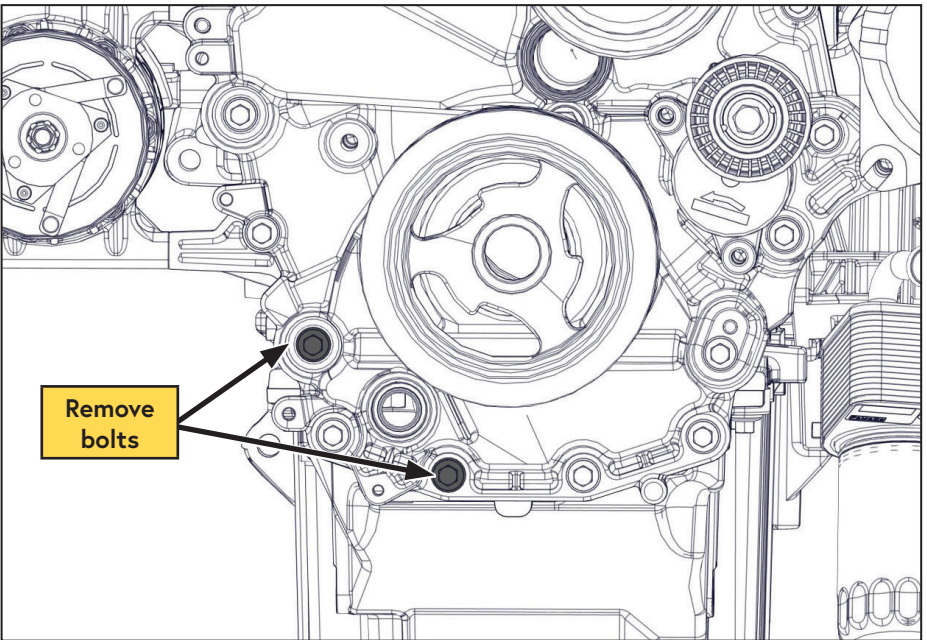

Figure 16 — Remove timing cover bolts
- Remove and discard the timing cover bolts (Figure 16).